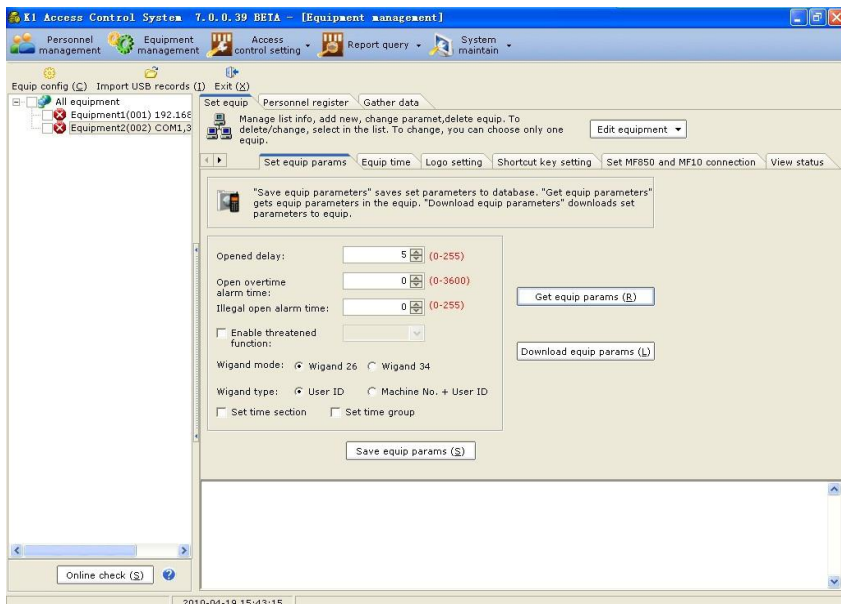

Figure 2.27
1. Equipment setting > Equipment parameters: Select the equipment, and click “Obtain access control parameters of equipment” to obtain the access control parameters of the equipment (Figure 2.27. You can obtain parameters of only one piece of equipment each time).